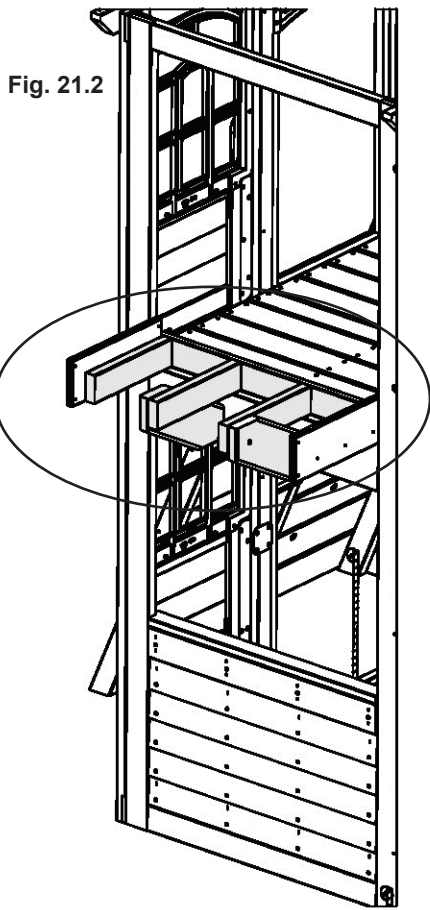

Fig. 21.2
**B:** Place the Lower Crowsnest Assembly from Step 19 centred in the opening of (040) Slide End Panel, in between (210) Crowsnest Bottom Sides, tight to the top of the floor boards then attach with 2 (S11) #8 x 2" Wood Screws per side. (fig. 21.2, 21.3 and 21.4)